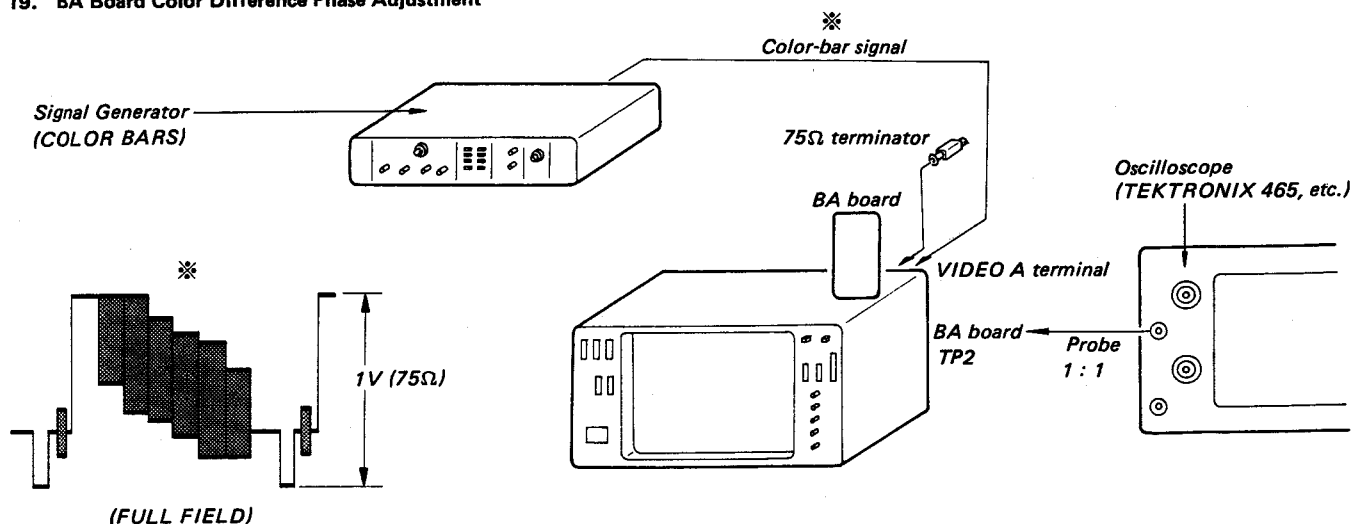

Fig. 5-92.
1. Complete the connections as shown in Fig. 5-92.